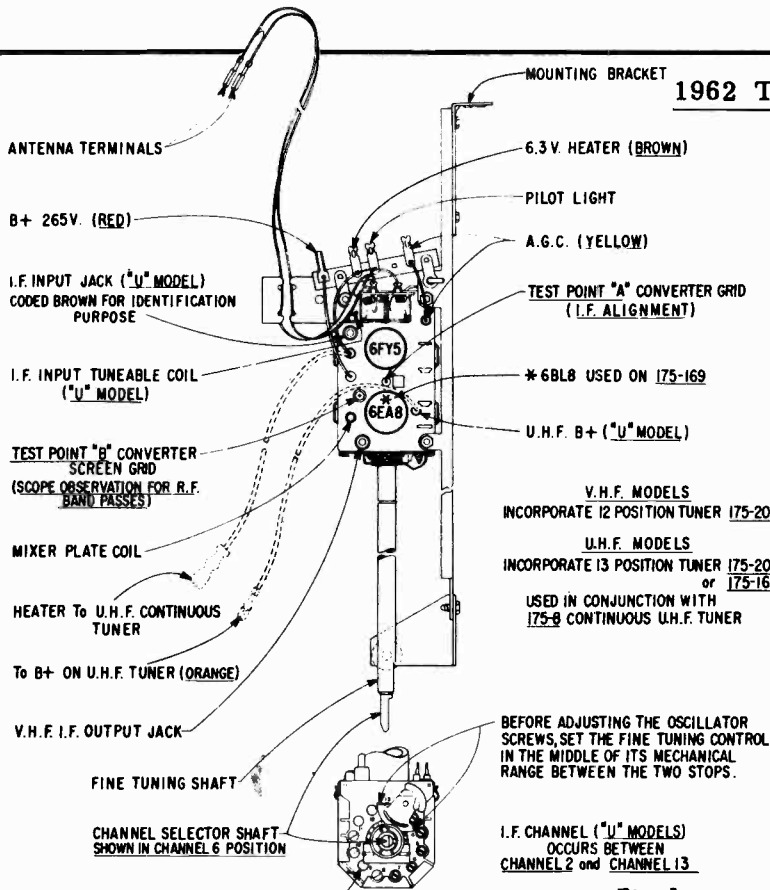
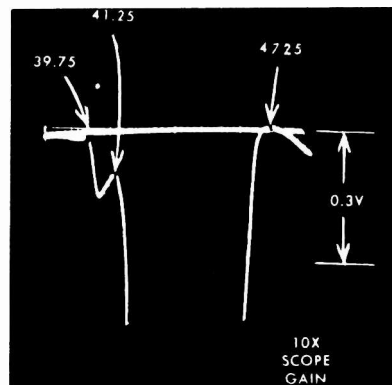
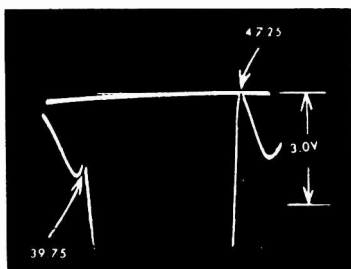
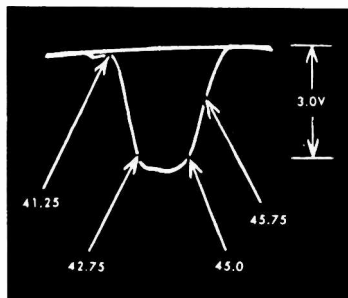

Fig. 1. Tube and Trimmer Layout, Bandswitch Tuner
Fig. 6 Expanded View of Traps
Fig. 7 Further Expansion of Fig. 6 for Detail View of the 39.75 and 47.25 Mc Traps.
Fig. 8 Overall IF Response
5. Connect the sweep generator to terminal "A" (mix grid, see Fig. 1, 2 or 3 depending on tuner). Connect terminal "F" to chassis and connect a jumper between terminal "E" and chassis. Adjust-sweep to obtain a 3V.P.P. response somewhat similar to Fig. 8. Switch oscilloscope to 10X gain to "blow up" the traps, (Fig. 6).
6. Refer to Fig. 6 and adjust the 39.75 Mc and the 41.25 Mc traps for minimum marker amplitude. Disconnect the jumper between "E" and chassis. Connect this jumper between "E" and the junction of the 56 (68 in the 16G20 and 16G27 chassis) and 1500 ohm resistors in the cathode of the first I.F. This provides an additional "Blow Up" of the 47.25 Mc traps. (Fig. 7). In the 17G28 chassis the receiver is shipped from the factory with the adjacent channel reject switch (at the rear of the chassis) in the "out" position. For alignment, the switch should be in the "in" position. Adjust the 47.25 Mc traps (the 16G20 and 16G27 chassis have one 47.25 Mc trap) for minimum marker amplitude.
7. Disconnect the jumper between "E" and the 56 and 1500 ohm cathode resistors. Connect this jumper between "E" and chassis. In the 17G28 chassis switch the adjacent channel reject switch to the "out" position. Adjust sweep generator for 3 volt s peak to peak output. Alternately adjust the 2nd, 3rd, 1st IF and the converter plate coil until an overall response similar to Fig. 8 (Fig. 9 for the 16G20